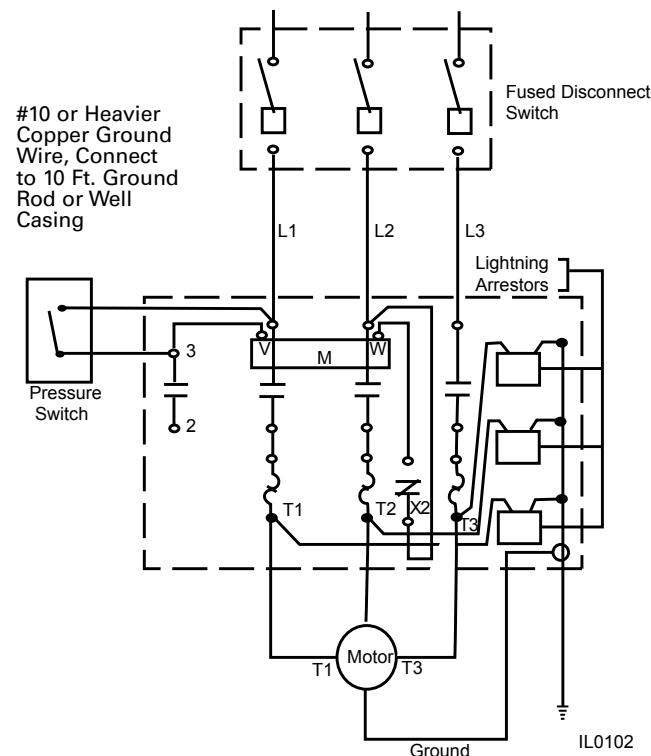

Figure 13 - Magnetic Starter Wiring Diagram Three Phase
2. Three phase motors do not have a built in thermal protection. It is recommended that a properly sized magnetic or manual starter (both with properly sized heaters) be used with all three phase motors. Install starters following instructions of the starter manufacturer. See Figure 13 for magnetic starter wiring diagram.